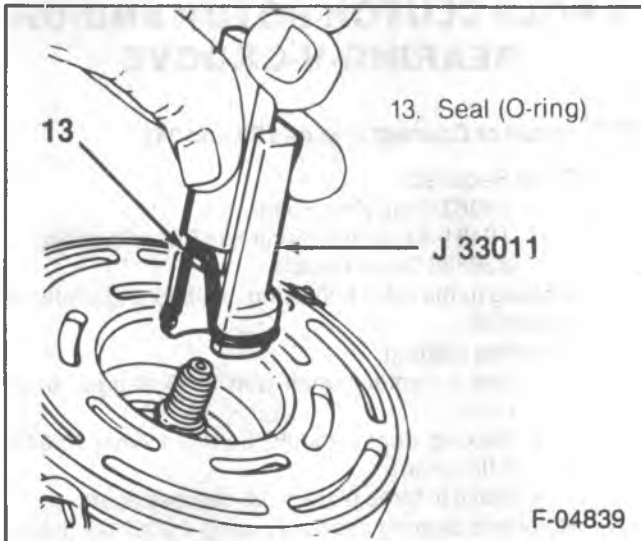

Figure 27—Installing the Seal
1. New O-ring seal, dipped in 525 refrigerant oil, onto J 33011 (figure 27).